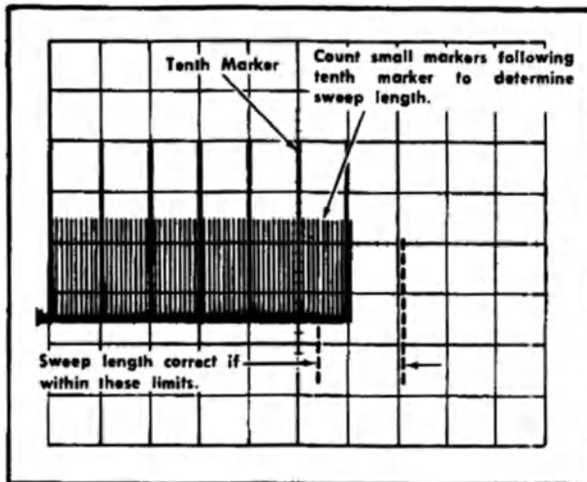

Fig. 5-14. Typical CRT display when checking sweep length.
- c. Position the tenth marker to the center vertical line with the Horizontal POSITION control (see Fig. 5-14).
- d. CHECK—sweep length between 10.4 and 12.1 divisions, as shown by 0.4 to 2.1 divisions of display to the right of the vertical center line (see Fig. 5-14). Large markers in the display indicate divisions and small markers 0.1 division.